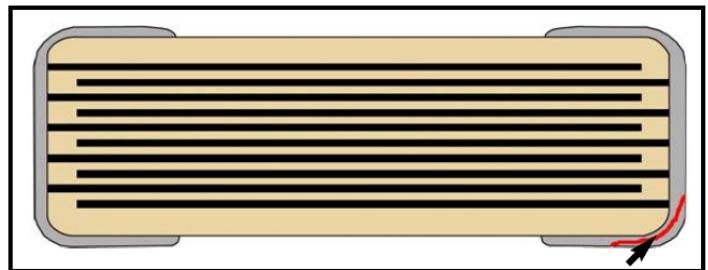

Figure 9 –Flexible termination moves flex cracks to the end termination, away from the ceramic body.
- Finally, for high capacitance values (also called HiCV in the industry), KEMET offers the Flexible Termination (FT-CAP). KEMET applies a special conductive silver epoxy on both end terminations, between the copper/electrode interface and the nickel/tin plating. This special epoxy layer is essentially a tearaway solution, providing a path of least resistance for board flex stress. This solution acts to steer the potential flex crack away from the ceramic body, into the more benign area of the termination (See Figure 9). Technically, Flexible Termination can be applied to any commercial SMD (Surface Mount) product, but due to additional manufacturing costs (primarily materials and labor), the Flexible Termination is more cost effective when used on HiCV devices. KEMET's Flexible Termination offers up to 5mm of board bend stress capability. To order this device, place an X for "Flexible Termination" in the 6th digit of the KEMET part number.